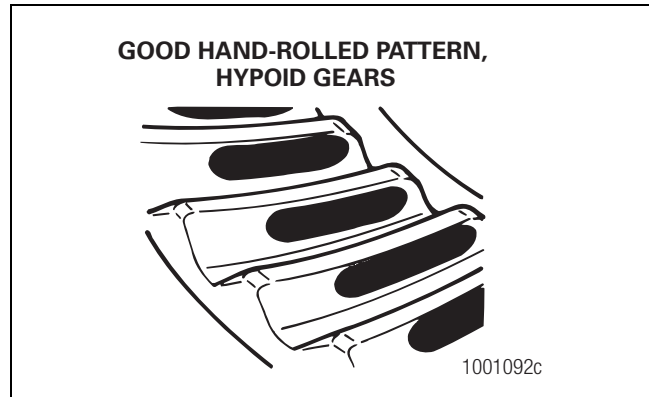
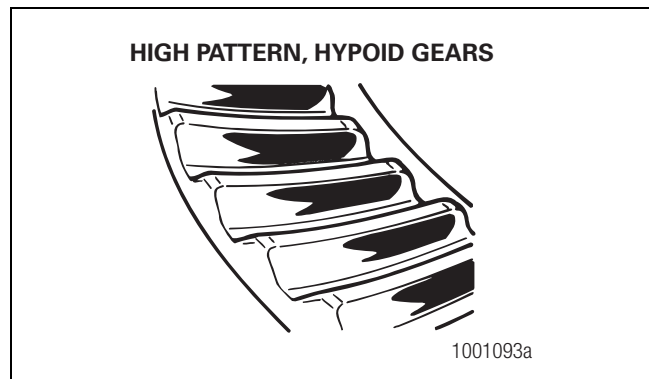

Figure 5.69
Figure 5.70
4. Look at the contact patterns on the ring gear teeth. Compare the patterns to Figure 5.69, Figure 5.70 and Figure 5.71.
The location of good hand-rolled contact patterns for new conventional and hypoid gear sets is toward the toe of the gear tooth and in the center between the top and bottom of the tooth. Figure 5.69.